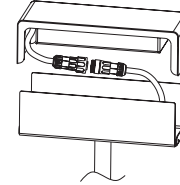

Figure 7
7. Connect the DC connector of led fixture with driver's DC connector. (Figure 7)